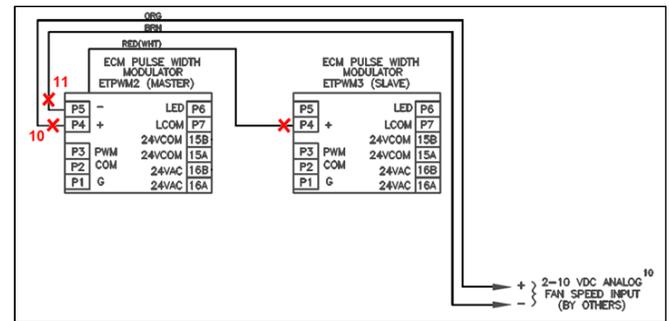

Figure 10 – Remove 2-10VDC motor control signal
REMOVE 2-10VDC WIRES AND ETPWM2/ETPWM3 BOARDS FROM EACH OTHER (See Figure 10)
- Lift wire between the back of ETPWM2 board and P4 of ETPWM3 (RED/WHT in Figure 10, but color may vary depending on unit).